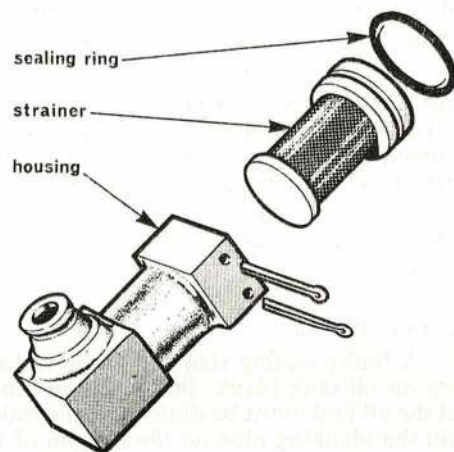

Fig. 5. STRAINER AND HOUSING
33. **Removal and Cleaning.** The oil strainers (Fig. 5) front and rear main bearings, are